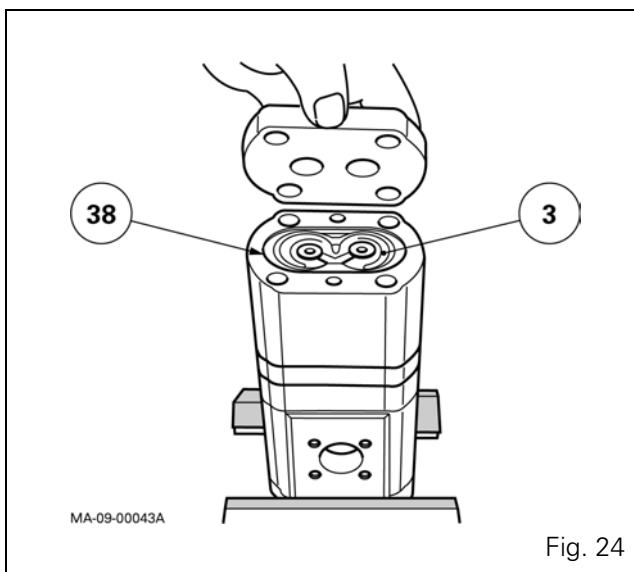

Fig. 24
108. Position the composite seal (3) and seal (38) (Fig. 24).